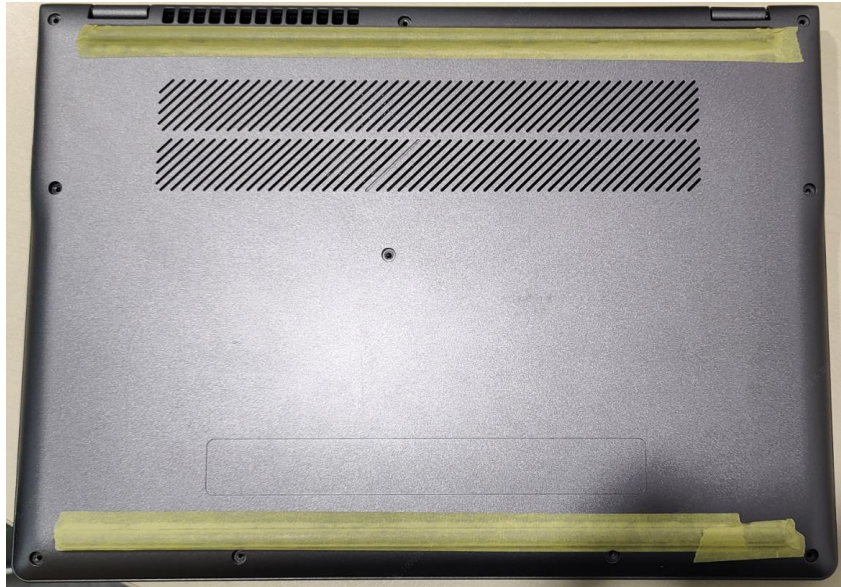

Figure 3-89. Replacing the Base Cover
1. Carefully place the base cover onto the top assembly. Make sure that the edges of the base cover are aligned properly to those of the top assembly (Figure 3-89).